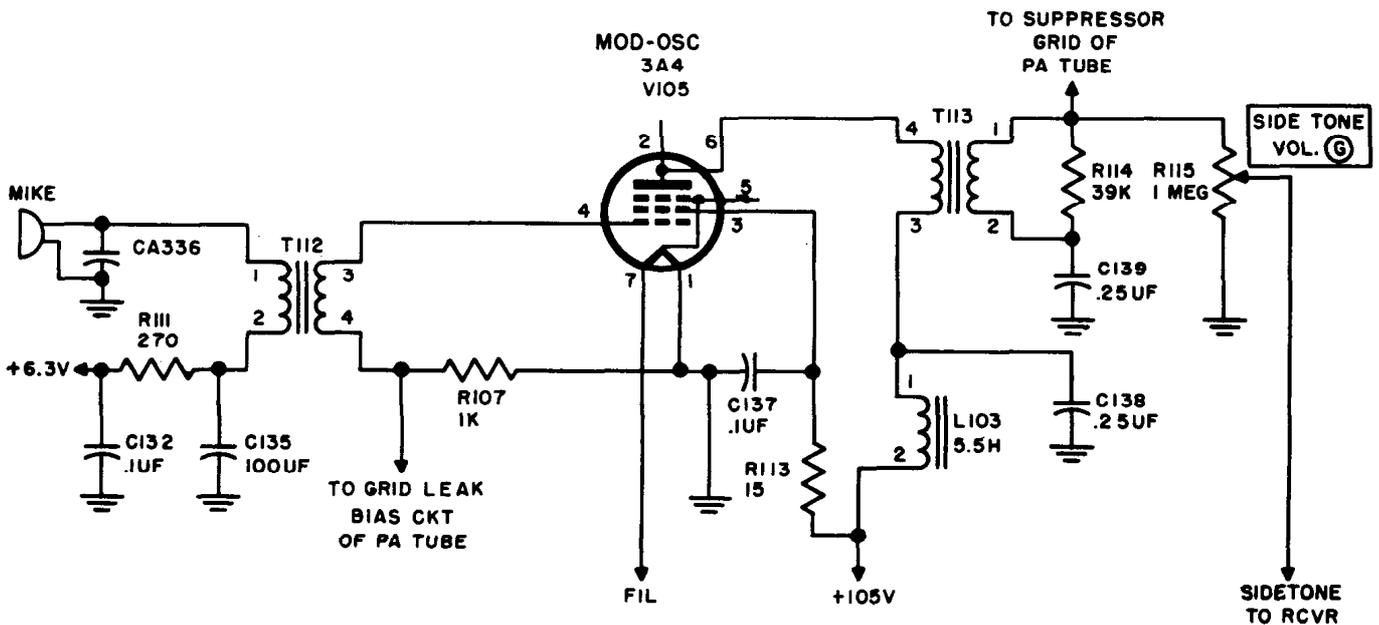

Figure 85. Modulator (voice) stage, simplified schematic diagram.
b. *Microphone Circuit* (fig. 85). The af variations are fed from the mike to matching transformer T112 and then to the control grid of V105 to complete the signal circuit. The dc filament supply of the transmitter furnishes the proper excitation voltage for the mike. The mike current (dc) flows through the carbon granules of the mike, terminals 1 and 2 of the primary of T112, through current limiting resistor R111, and to the positive terminal of the filament supply to complete the dc excitation path of the mike. Capacitor CA336, located inside the mike, is a filter to bypass any disturbances set between the carbon granules. Capacitor C135 is a filter capacitor which is used to lessen microphone hiss. Capacitor C132 is a bypass to prevent interference from entering the filament supply.
c. *Am Operation* (fig. 85). The audio variations fed to the control grid are amplified and appear across the modulation transformer T113. The suppressor grid of the pa stage is connected in series of the secondary of T113 and biased by the negative voltage developed by the control grid current flowing through K102A and R106 (fig. 76). The modulation voltage, therefore, varies the voltage on the suppressor grid in accordance with the intelligence in the microphone.
- (1) The bias used on the modulator control grid, pin 4, is supplied from the pa